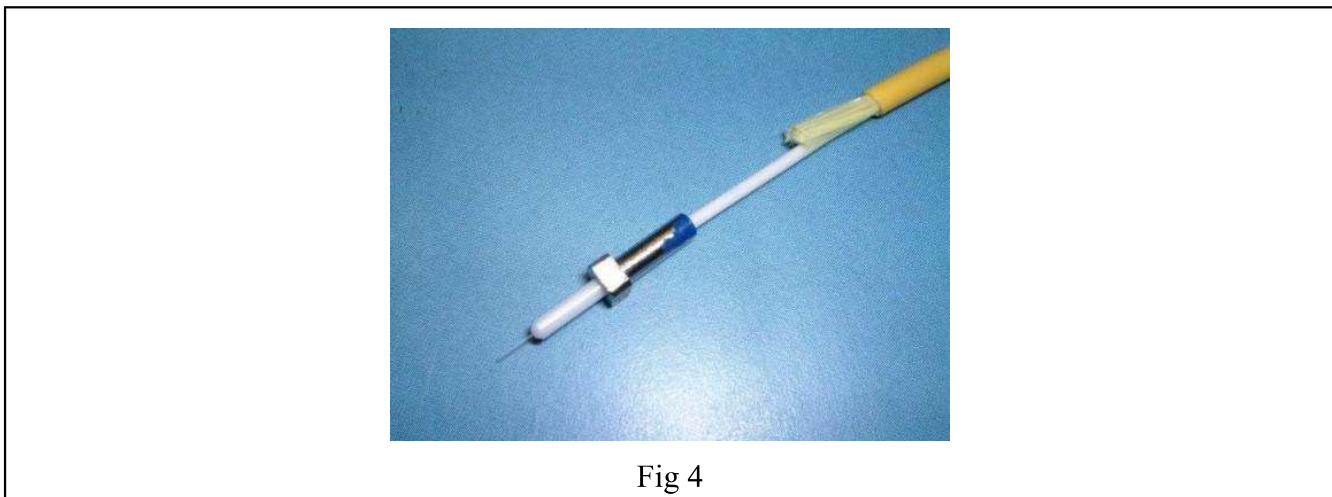

Fig 4
Step 6 Insert bare fiber carefully into the epoxy-filled ferrule body. Slightly rotating the connector will help the fiber to get through the ferrule. See Fig 4.